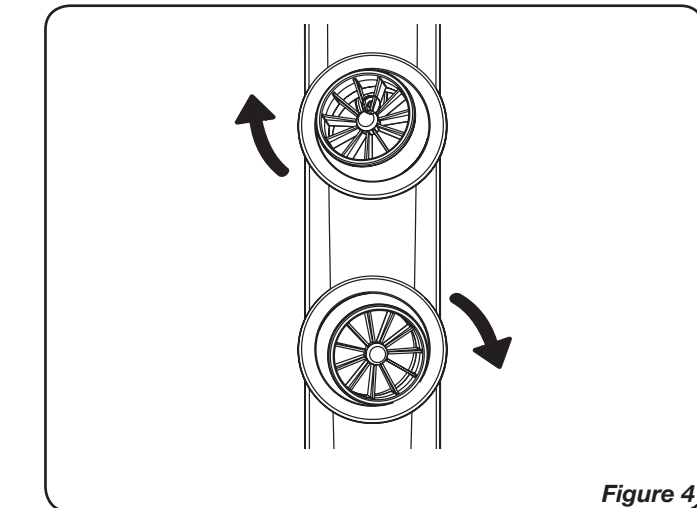

Figure 4
5. **SPEEDS:** Adjust the speed of the Fan by pressing the **Fan Speed Button** (🌀), after the power is turned on. Each time the speed button is pressed, the speed will change, from High (3), to Medium (2), to Low (1).
7. **MULTI-DIRECTIONAL AIR VENTS:** In addition to the oscillation function, this Fan has Multi-Directional Air Vents. Adjust the Air Vents as desired. (**Figure 4**)